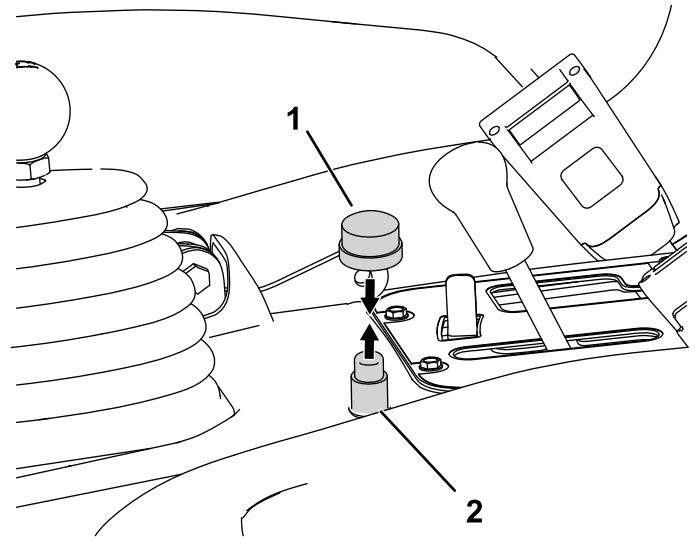

Figure 15
- Push the button up through the bottom of the hole drilled in step 10 and screw on the top cap and nut (Figure 15). Place the decal (137-6720) adjacent to the button below the control panel.